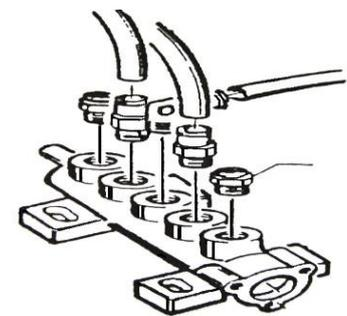

Fig 17
6. Clean or replace the foot pedal valve. (Fig. 17)